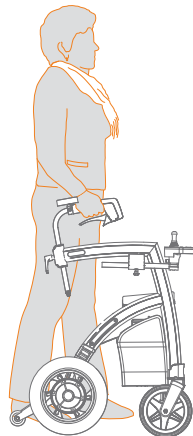

Figure 25: Walk upright close to the roller.
- b. Stand in between the handles while walking. This way you walk as close as possible to the walker, which offers the most support **(Figure 25)**. You could lean on the Rollz Motion Electric if necessary.